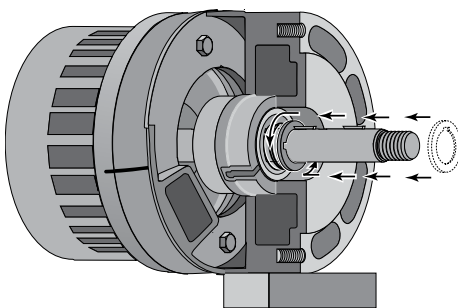

Figure 23
- Step 6. Push the shaft seal and seal spring onto the shaft, after making sure that the seal faces and shaft are clean. *Take care that the shaft shoulder does not damage the carbon seal face.* Follow the seal spring with the spring holder; compress the spring and give the spring holder a quarter turn to lock it under the first shaft key (see Figure 23).